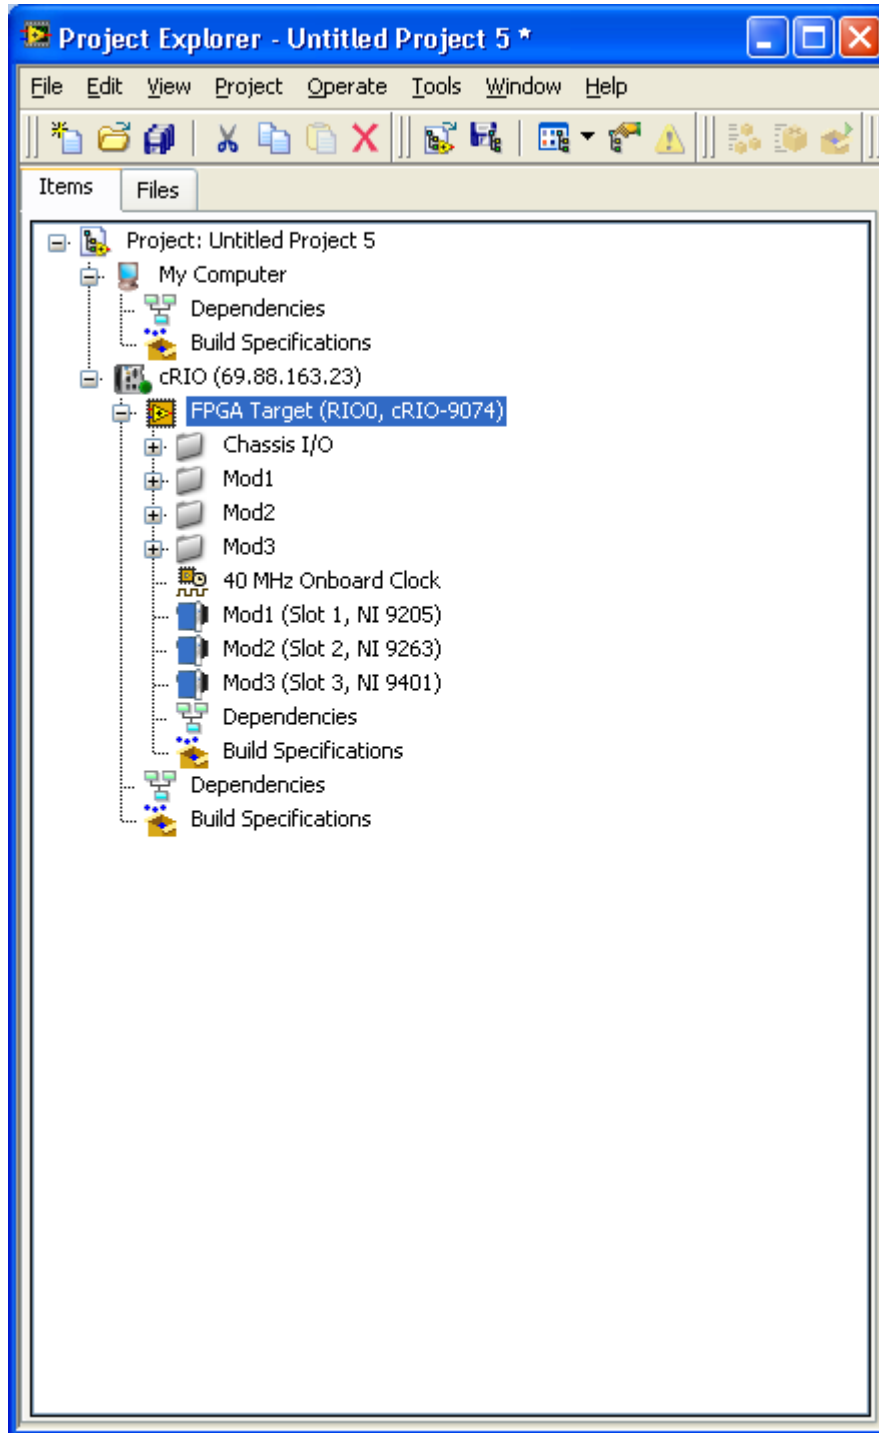
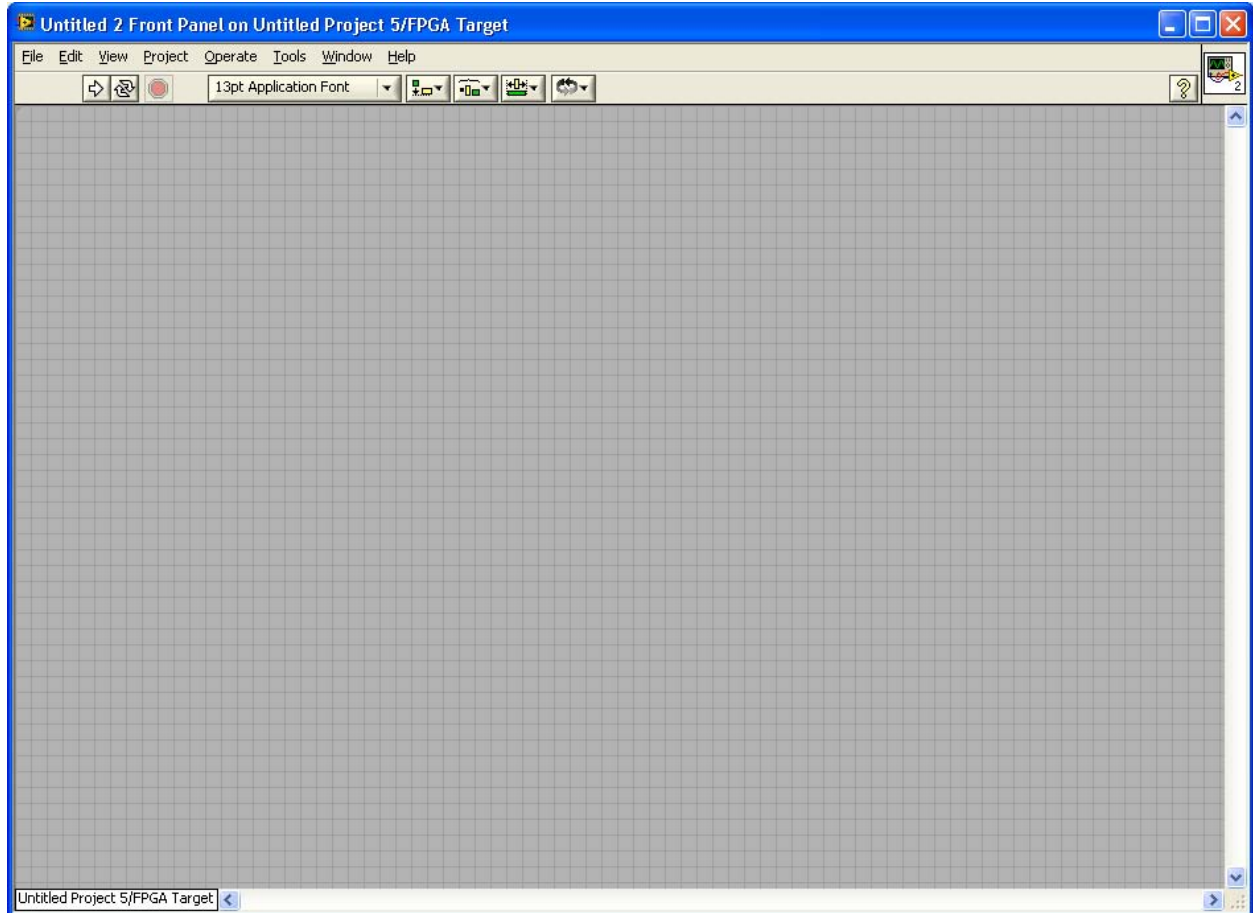
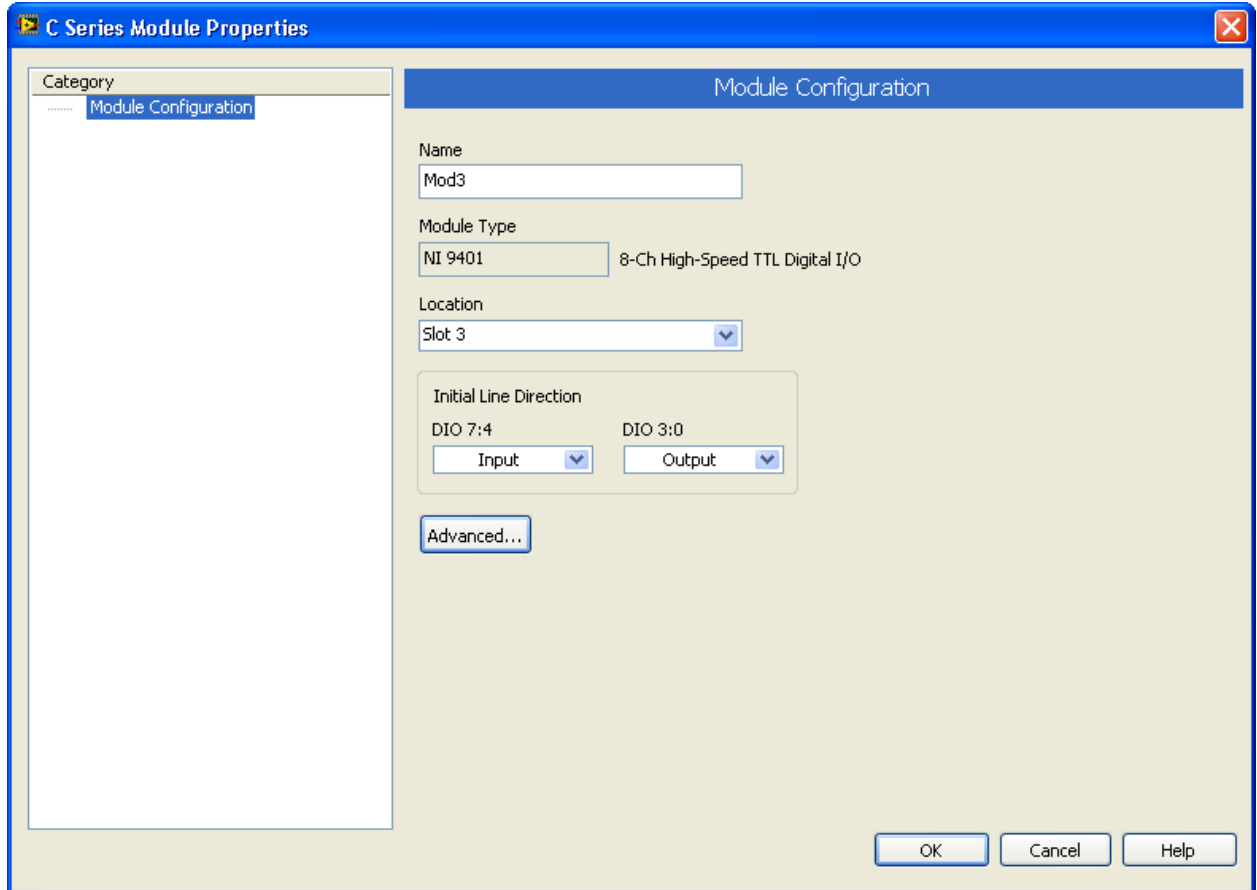

Figure A6 Project Explorer
Figure A7 VI Front Panel
Figure A11 - Mod3 (Slot 3, NI 9401) Properties Window
6. On the next screen, close the FPGA Wizard and expand the FPGA Target menu. A screen shown in Figure A6 appears.
7. Right click on FPGA Target (Figure A6), select New and VI. A new VI Front Panel appears (Figure A7).
15. In Project Explorer (Figure A6), right click on Mod3 (Slot 3, NI 9401) and select properties. Make sure that DIO 3:0 has Output in the drop down menu (Figure A11).
1. Starting at step 7 of the previous section, “Adding a new VI for the Digital IO Module”, right click on FPGA Target (Figure A6), select New and VI. A new VI Front Panel appears (Figure A7).